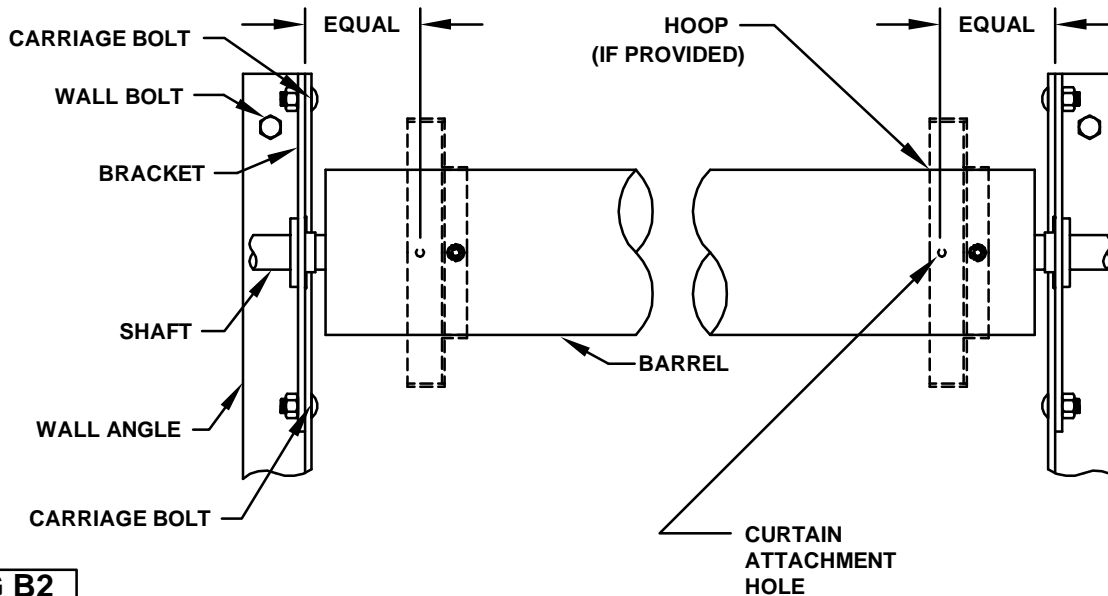

FIG B2
- 3) Using the carriage bolts as shown in FIG B2, bolt the brackets to the wall angle.
- 4) Position the barrel, with an equal distance from the first curtain attachment hole, to the inside face of both brackets. See FIG B2. Assemble bracket components according to appropriate barrel & bracket assembly figure.